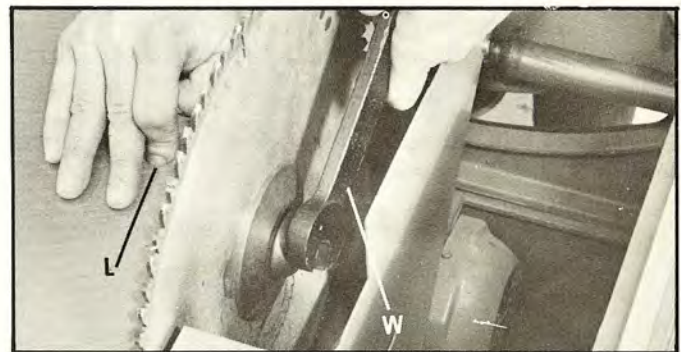

Fig. 24
5. Depress arbor lock button at (L) Fig. 24, and tighten arbor screw using wrench (W).